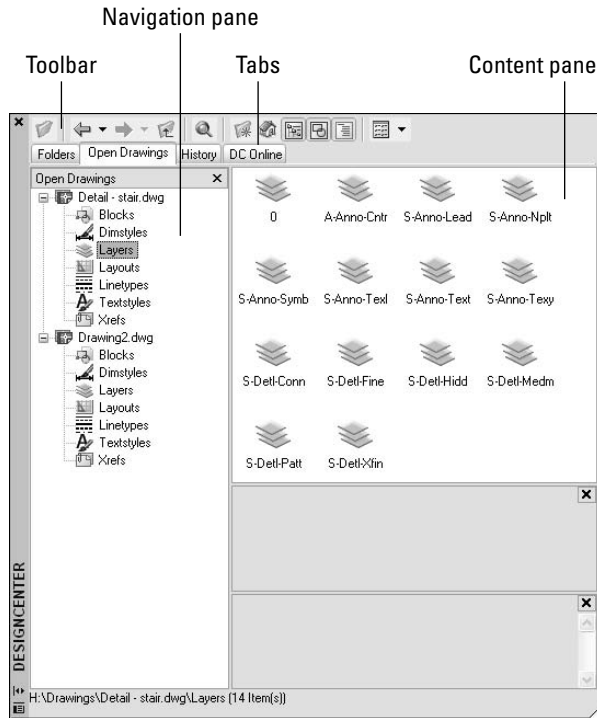

Figure 4-9:
The DesignCenter palette (shown in Figure 4-9) consists of a toolbar at the top, a set of tabs below that, a navigation pane on the left, and a content pane on the right. The navigation pane displays a tree view with drawing files and the symbol tables contained in each drawing. The content pane usually displays the contents of the drawing or symbol table.
The toolbar buttons further refine what you see in the navigation and content panes. A few of these buttons toggle off and on different parts of the panes. If your DesignCenter palette is missing an area that appears in Figure 4-9, click each of the buttons until the missing part reappears.
5. **If DesignCenter doesn't display the symbol tables indented underneath the source drawing (the one you opened in Step 2), as shown in Figure 4-9, click the plus sign next to the drawing's name to display them.**